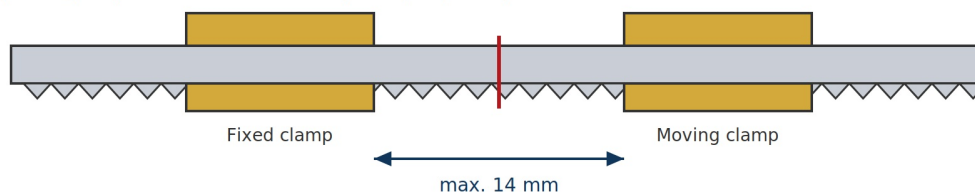

Fig. 6.2 Blade position in the jaws for welding (A) and annealing (B)
2. Clamp the blade again so that the **weld joint lies in the middle** between the jaws (Fig. 6.2 B).